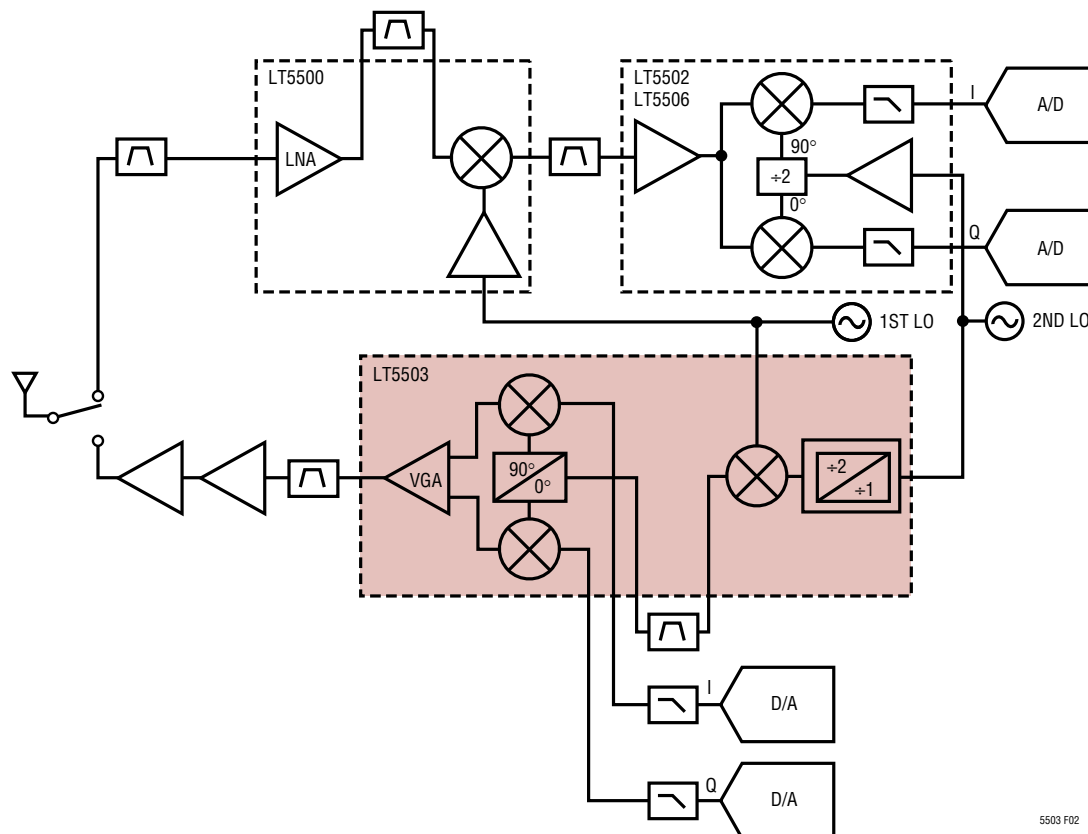

Figure 2. Example System Block Diagram for a Dual Conversion System
2.4GHz matching, MIXEN = high, DMODE = low (LO2 ÷ 2 mode), LO2IN = 750MHz at -18dBm, LO1IN = 2075MHz. MIXRFOUT measured at 2450MHz, unless otherwise noted. (Test circuit shown in Figure 2.)
$V_{CC2} = 3VDC$ , MIXEN = high, DMODE = low (LO2 ÷ 2mode),  $T_A = 25^\circ C$ , unless otherwise noted. (Test circuit shown in Figure 2.)
A dual-conversion RF system requires two local oscillators to convert signals between the baseband and RF domains (see Figure 2). The LT5503's double-balanced mixer can be used to generate the LT5503 modulator's high frequency carrier input (MODRFIN) by mixing the systems 1st and 2nd local oscillators (LO1 and LO2). In this case, a bandpass filter is required to select the desired mixer output for the modulator input. The mixer's RF differential output produces  $-12\text{dBm}$  typically at 2.45GHz and the modulator MODIN pin requires  $\geq -16\text{dBm}$ , driven single-ended. This allows approximately 4dB margin for